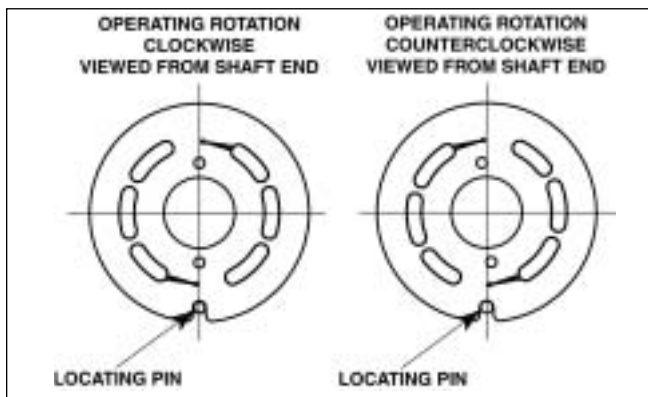

Figure 10
23. Place the pump body (with shaft end pointing down) on a fixture, and coat the face of the barrel with clean hydraulic fluid. Place the gasket (24) on the pump body.
24. Assemble the plunger (21) and port plate (4) onto the cover (2).
25. Lightly coat the port plate (4) with grease. Place the port plate on the cover (2), locating the "U" shaped slot over the pin (66). See Fig. 10